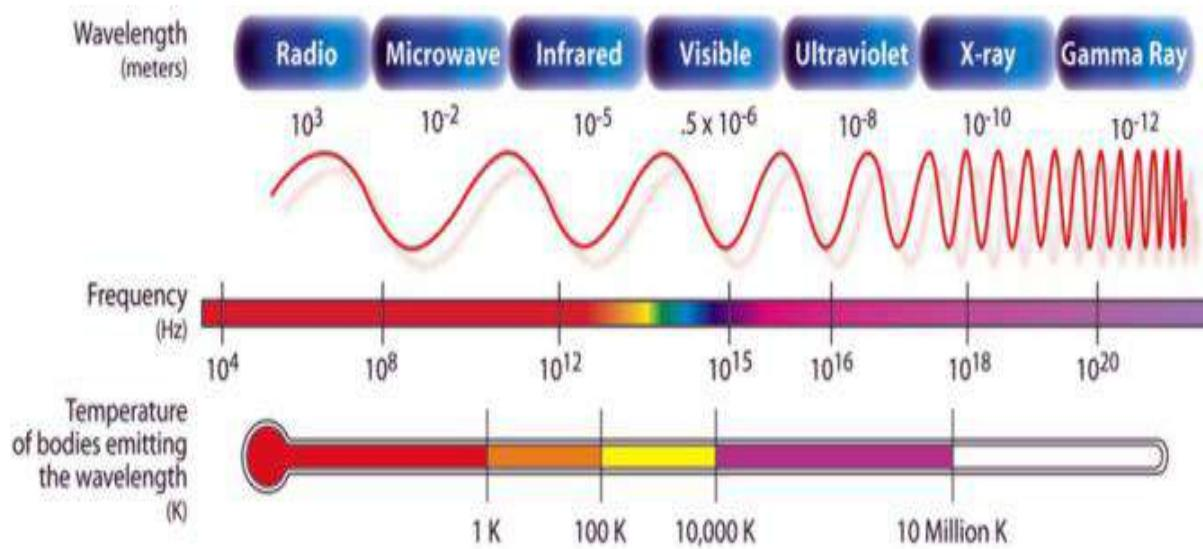

FIGURE 4A: ELECTROMAGNETIC [PHOTONIC] SPECTRUM
Radio waves, the invisible/visible light spectrum and various types of “radiation” are composed solely of light-speed discrete bundles (packets) of wave-particle energy called photons (Greek: phos [light]) that radiate alternating magnetic and electric fields throughout the electromagnetic (EM) spectrum (see Figure 4a). At the low-end, photons behave more wave-like and exposure is relatively safe (non-ionizing radiation) but when “juiced up” to the extreme ultraviolet (UV) and beyond, they act particle-like blasting electrons from atoms/molecules, and prolonged exposure is deadly (ionizing radiation).